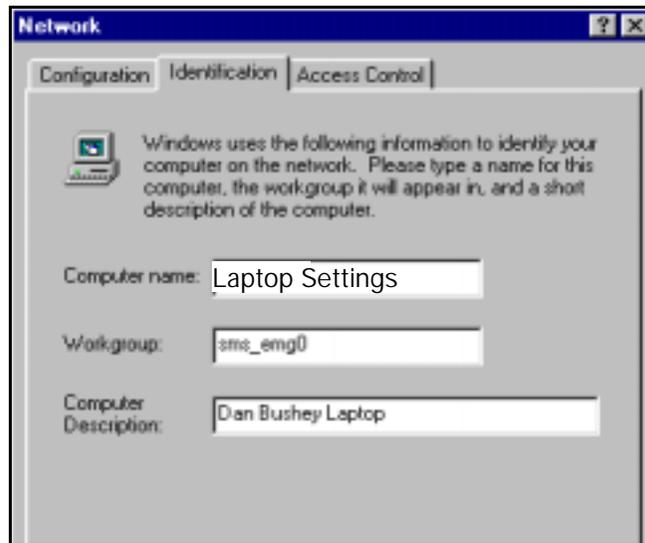

Figure 3-5 Network window
6. At "Network" window (see Figure 3-5) click on *Identification* Tab.